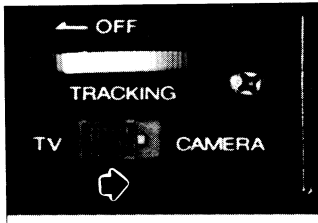

Fig. 1-14
2. Set the TV/CAMERA switch of the PV-4800U to CAMERA and its Mode to COLOR. See Figs. 1-14 and 1-15, respectively.